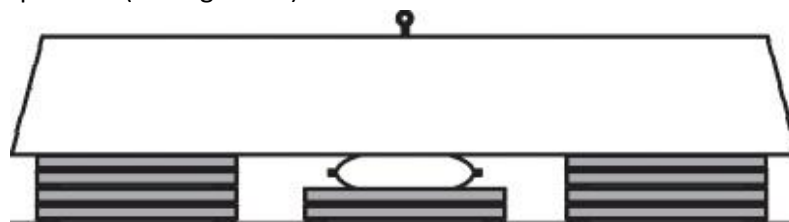

Figure 12 – Additional Supports
- 5.4.7 Inflate the air bag to achieve the required height then add safety supports as high as possible (see Figure 12).